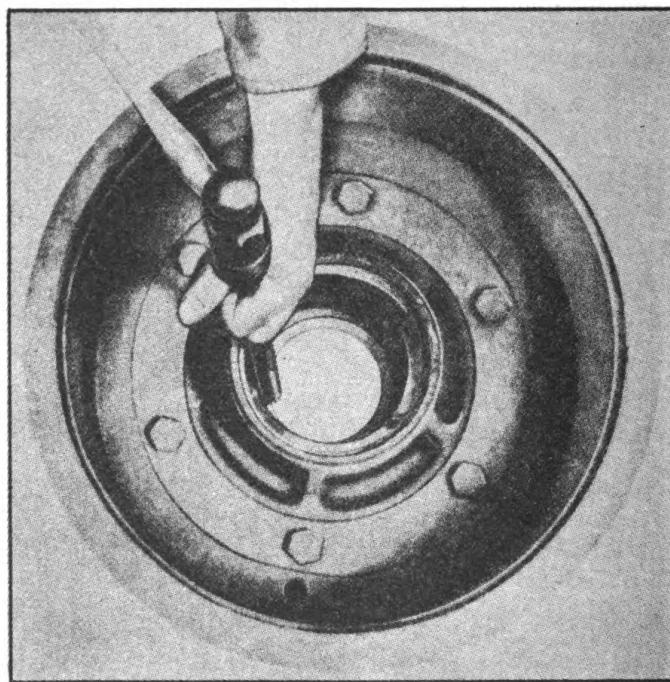

FIGURE 74. CUP REMOVAL
5. BEARING CUPS (Figure 74).—*a. Removal.*—Place a soft steel bar on the inside shoulder or edge of the cup to be removed. Using a heavy hammer, hit first on one side of the cup and then the other. By alternating in this manner, the cup will come out straight with the cup bore. Danger of wedging of the cup in the bore is minimized.
*b. Installation.*—(1) With the wheel on its side, start the new cup square with the bore so that its smallest inside diameter will be on the inside when it is in place.